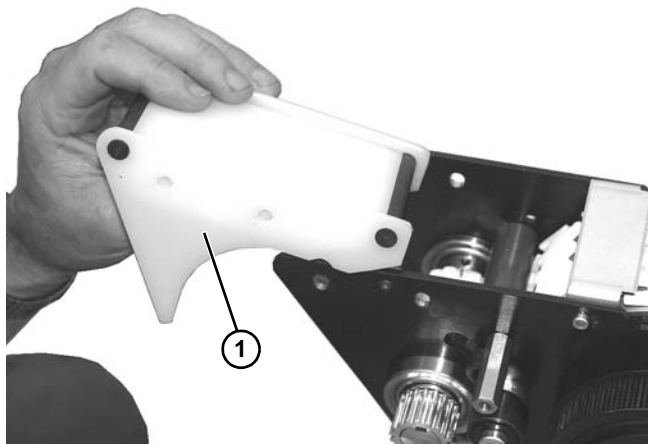

Figure 151
10. Remove wear bar assembly (**Figure 151, item 1**) from power transfer.